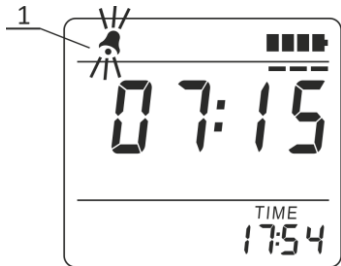

Figure 25 – LCD of the radiometer
As soon as the alarm clock activation time is programmed, the alarm clock symbol (1) starts blinking on the LCD of the radiometer (Figure 25).